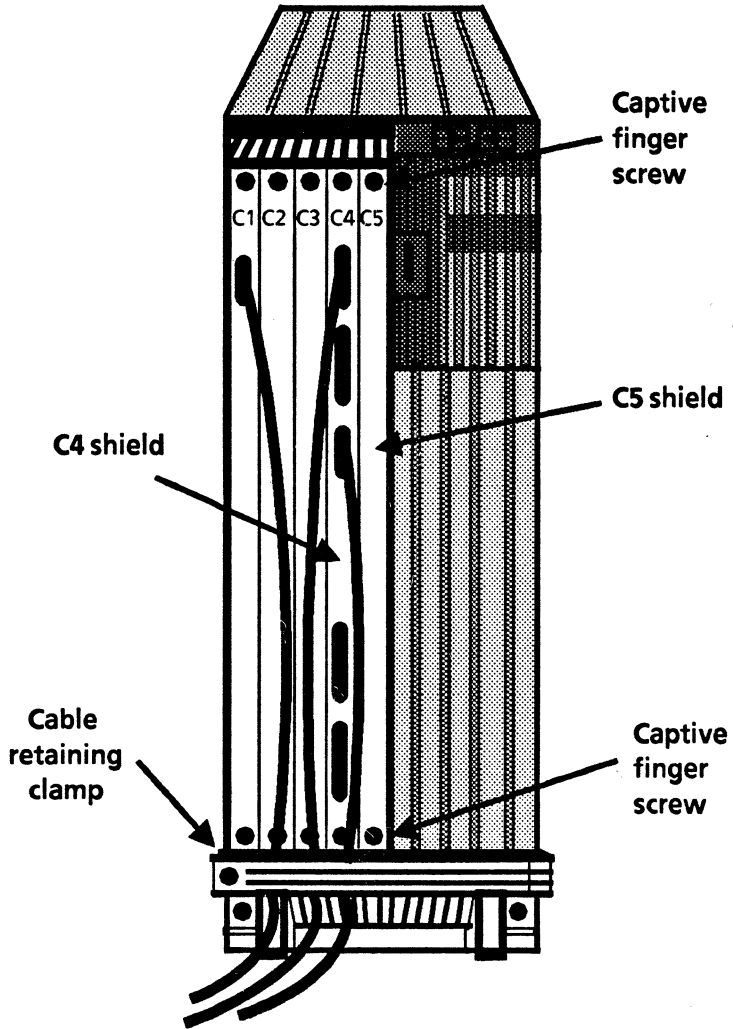

Figure 2-1 6085 processor (rear view)
3. Release the cable retaining clamp (Figure 2-1) by loosening the captive finger screw and swinging the cable retaining clamp out to the right.